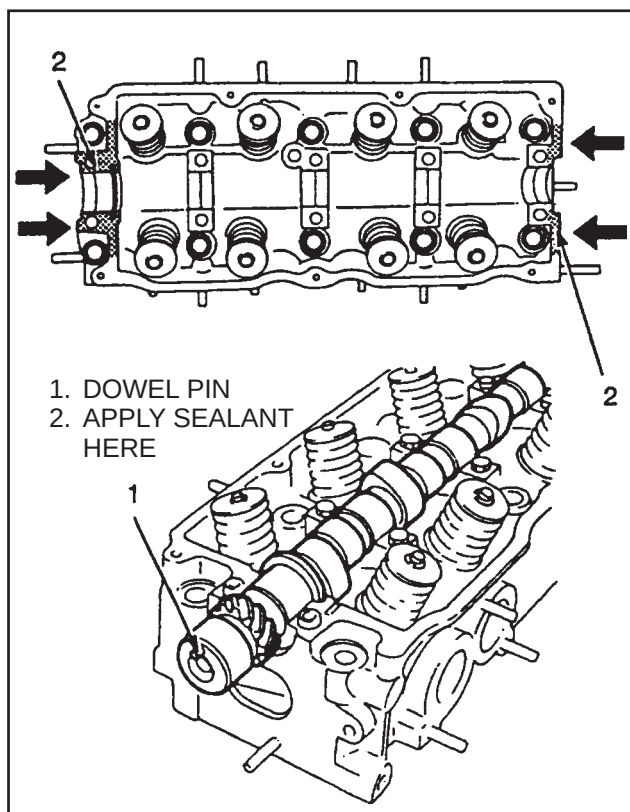

FIGURE 19. INSTALL THE CAMSHAFT
5. See FIGURE 19. Apply a gasket sealer to the areas shown by the arrows. Lubricate the camshaft with clean engine oil, then install the camshaft. Make sure the dowel pin is at the top of the camshaft.